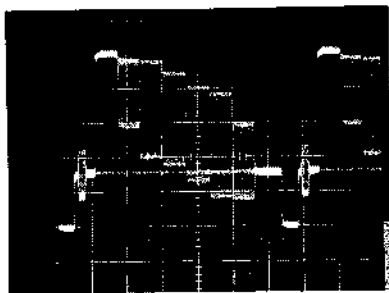

Fig. 24
- Adjust the signal on TPVO to 1.0 ± 0.05 Vp.p (when terminated with 75 ohm or to 2.0 ± 0.1 Vp.p when unterminated) with R328 in the luminance section of the PM01 CBA (Fig. 24).